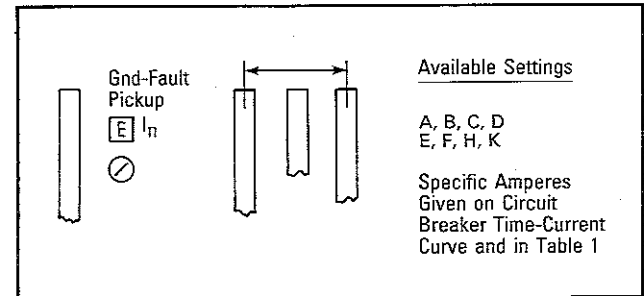

Fig. 4.6 Ground Fault Current Pickup Settings
As illustrated in Fig. 4.6, eight (8) available settings are given in alphabetical notations from A to K. (There is no "G" notation). Specific setting values are a function of the installed rating plug. In general, the pick-up settings range from 0.25 to 1.0 times the ampere rating ( $I_n$ ) of the installed rating plug up to a maximum pick-up value of 1200 A. However, in the lower ampere rating plug values, an error factor can occur in the Digtrip RMS 500 Trip Unit since it is completely self-powered using only the input from the installed current sensors. Refer to Table 1, Note 2 for additional information.